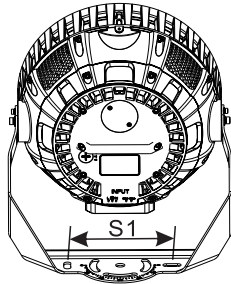

Figure 3
1. Mark the hole distance S1 shown in the product to be installed (Figure 3);